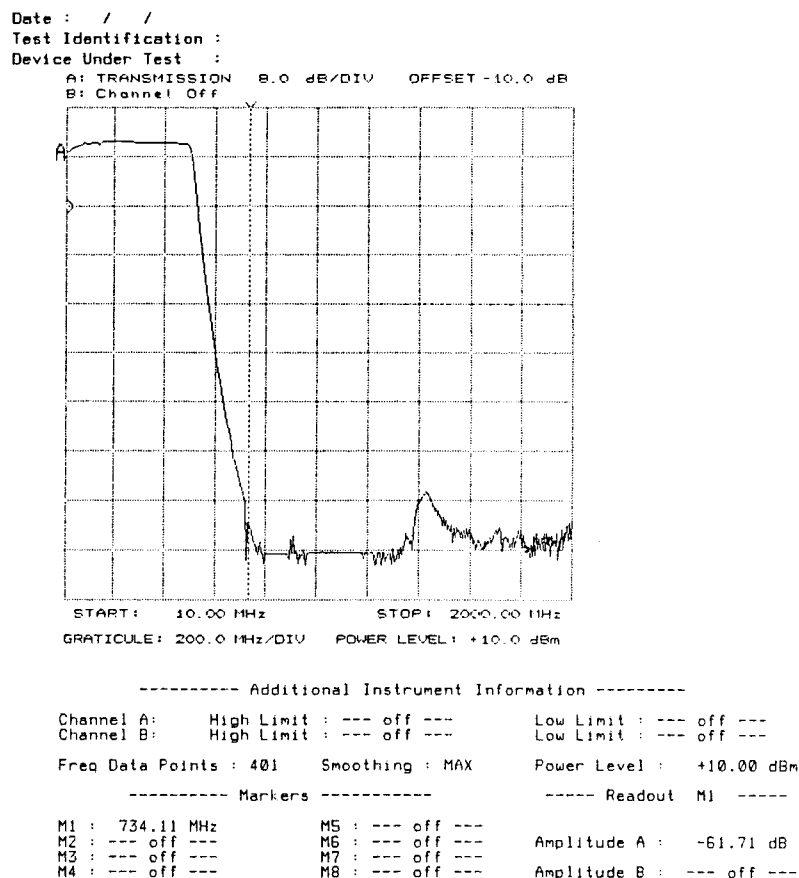

Figure 3-25. Hard-Copy Printout of Displayed Graphic
- (1) Press the NETWORK ANALYZER SMOOTHING key to light the MAX indicator.
- (2) Press the SOURCE FREQUENCY DATA POINTS key to light the 401 indicator.
- (3) Read the transmission loss as before and note that it is much more steady. For the example, it now reads between -61 dB and -65 dB.
- (4) Return SMOOTHING to OFF and FREQUENCY DATA POINTS to 201.
- d. The printout should resemble the one shown in Figure 3-25.